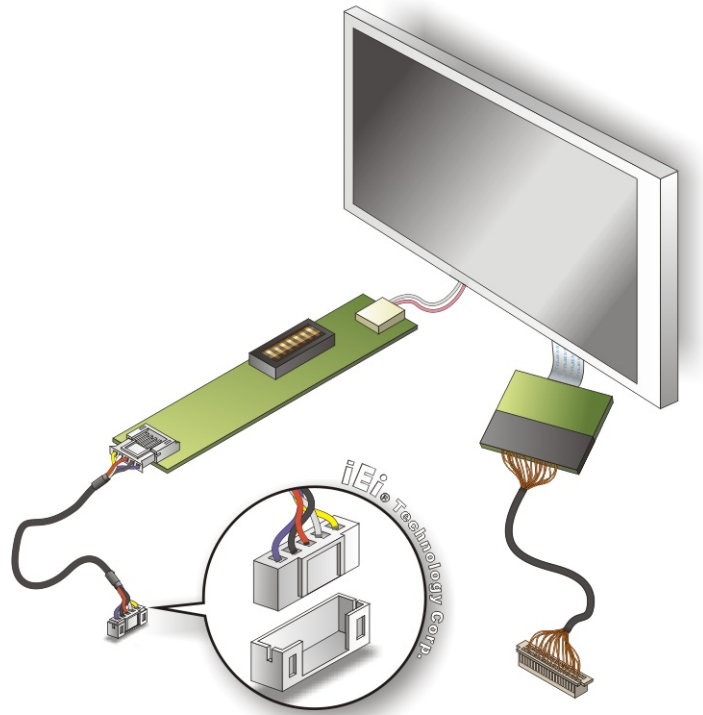

Figure 4-26: Backlight Inverter Connection
- Step 4:** **Connect backlight connector.** Connect the backlight connector to the driver TFT LCD PCB as shown in Figure 4-26. When inserting the cable connector, make sure the pins are properly aligned.
Step 4: **Connect backlight connector.** Connect the backlight connector to the driver TFT LCD PCB as shown in Figure 4-26. When inserting the cable connector, make sure the pins are properly aligned.